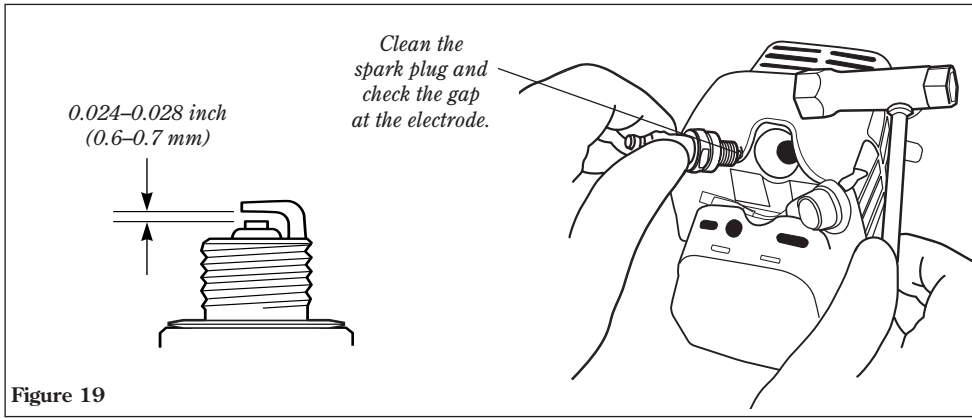

Figure 19
- Remove and clean the spark plug. Adjust the spark plug electrode gap to 0.024–0.028 inch (0.6–0.7 mm). If the spark plug must be replaced, use only an NGK BPMR6A or equivalent resistor type spark plug of the correct heat range. See Figure 19.